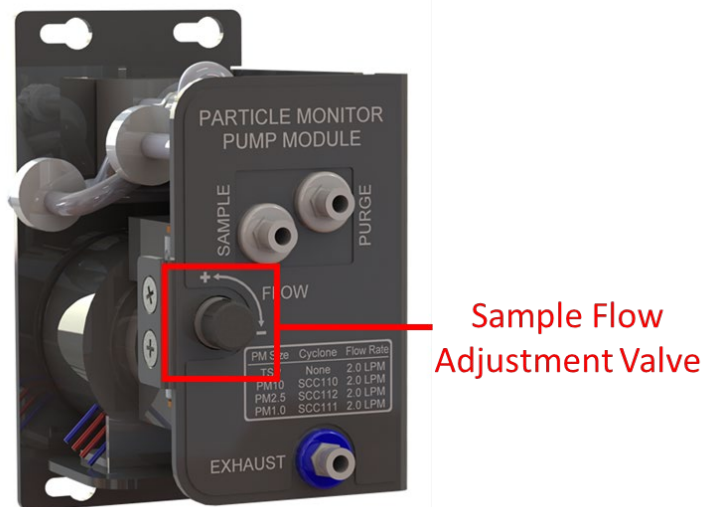

Figure 6-21 The flow rate of the Particle Nephelometer is set by adjusting the sample flow adjustment valve.
5. If the flow rate is incorrect, adjust the sample flow by pulling out on the sample flow adjustment valve as shown in Figure 6-21 The flow rate of the Particle Nephelometer is set by adjusting the sample flow adjustment valve and rotating in the indicated direction to adjust the flow until the flow rate is correct.